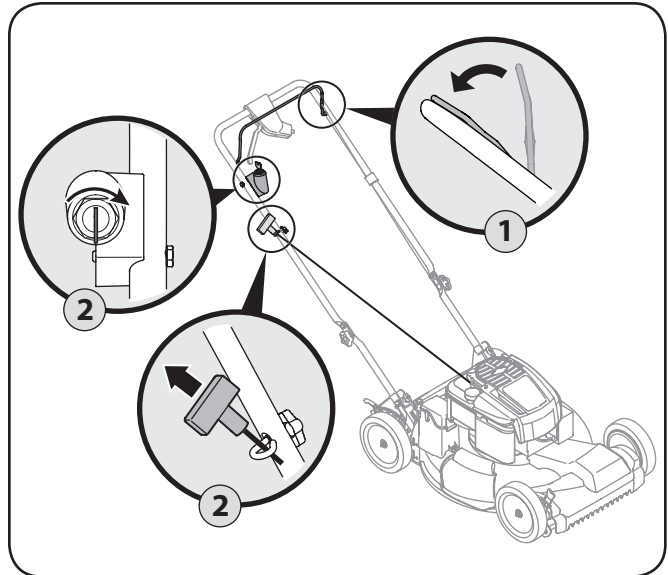

Figure 5-1
1. Standing behind the mower, squeeze the blade control against upper handle. See Fig. 5-1.
2. **Recoil Start:** Holding these two handles together firmly, grasp recoil starter handle and pull rope out with a rapid, continuous, full arm stroke. See Figure 5-1. Keeping a firm grip on the starter handle, let the rope rewind slowly. Repeat until engine cranks. Let the rope rewind each time slowly.